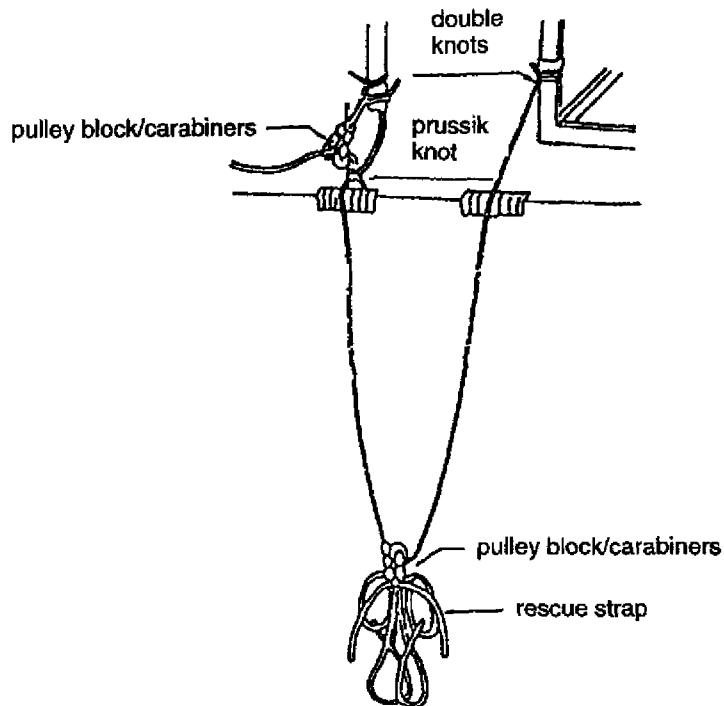

Fig. 7-22
- f. Fasten the extra length of the prussik knot to a fixed object. (Fig. 7-22)